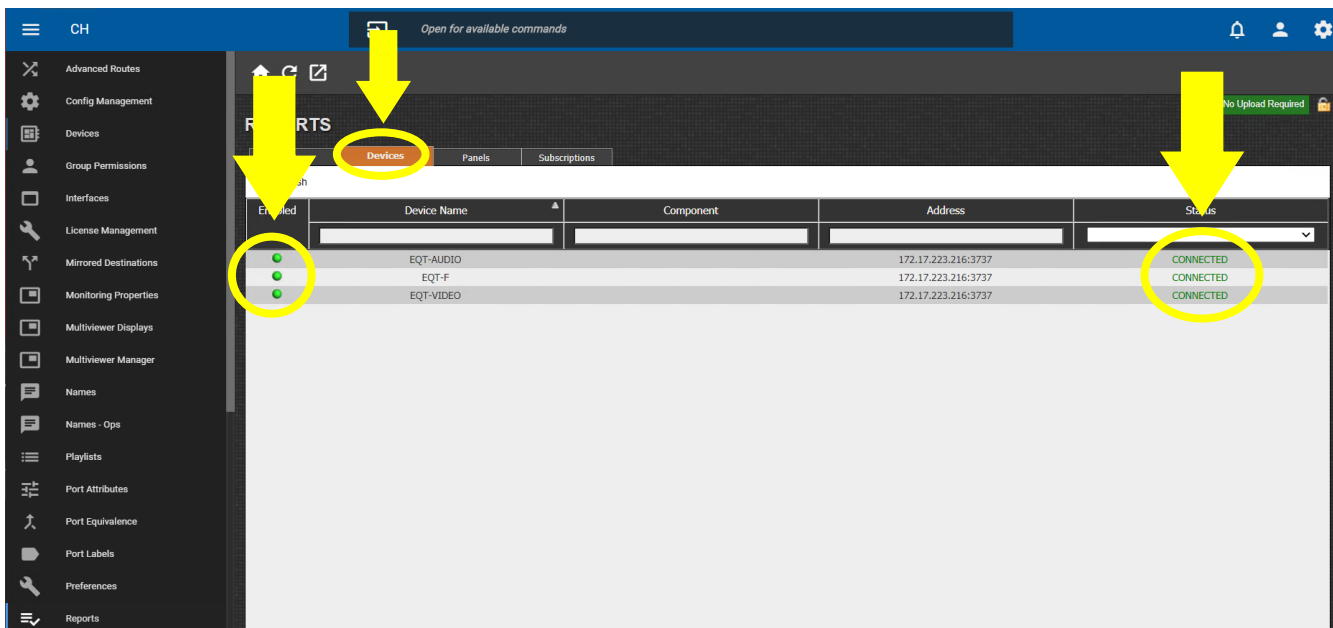

Figure 9-10 : MAGNUM - Reports Page
14. Navigate to the Reports page. Confirm that the router, as well as the video and audio levels are present and ‘connected’ in the Devices tab as highlighted in Figure 9-10.